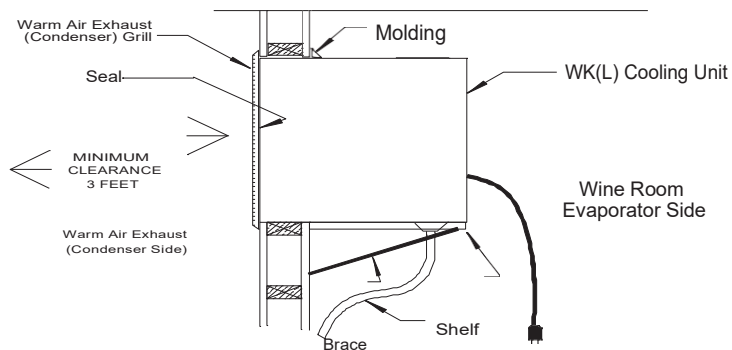
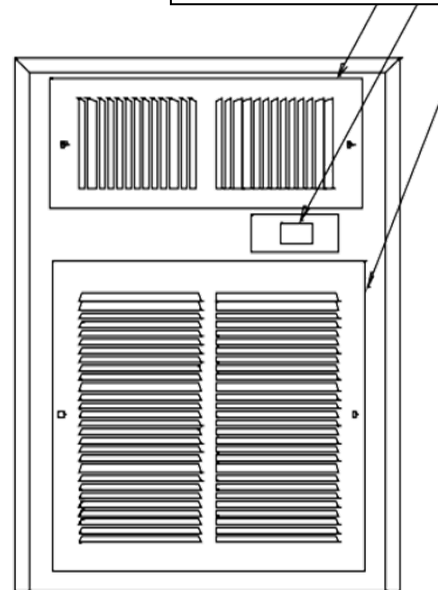

Figure 3
Figure 1
- ☞ This is a mechanical piece of equipment; it will make noise and produce heat on the warm side exterior condenser grille (Fig. 3). Remember, unit installation location is not only important inside the wine cellar, but just as important is where the warm side exhaust air is being rejected.
Before installing the unit, inspect it again for any shipping damage. Test the unit by placing it in a room where the temperature is above 65°F. Position the unit to allow cold air to flow from evaporator outlet. (See Fig. 1) Plug the unit's electrical cord into a properly grounded electrical outlet of adequate capacity (see unit specification for unit electrical requirements).
The Sentry III has no "off" position; therefore, it will begin to run within 5 minutes of being plugged in. Allow it to run for a minimum of 15 minutes. There should be a flow of cool air from the evaporator side upper grille (see Fig. 1) and warm air should be flowing from the upper opening on the warm air exhaust (condenser) grille (see Fig. 3). If there is no airflow or no change in temperature on either side, contact your dealer.
Make sure that the warm air exhaust condenser grille can be properly attached to the unit (see Fig. 3).
If the unit is to be installed above floor level, construct a shelf as shown in Fig. 3. This shelf must be capable of supporting the weight indicated in the specifications. NOTE: Insulation placed between the unit and the shelf will reduce additional noise and help reduce condensate from forming on the underside of the unit.
Place the unit through the opening with the warm air exhaust side, flush to the outside of the wall (see Fig. 3). Attach the warm air exhaust condenser grille to the unit and to the wall with screws supplied with grille. Note: the unit may be installed with the cold side flush to the inside wall, however, two provisions must be made. First, insure the warm air exhaust grille will be installed. Second, insulate and vapor barrier the framed opening to prevent moisture in the wall from condensing on the cold surface of the cooling unit. Please remember that in all cases the warm air exhaust condenser grille must be directly attached to the warm side of the unit. Do not leave an air gap between the unit's surface and the warm air exhaust condenser grille. **The unit will not work properly without this grille.** The exhaust condenser grille has only a white primer coat. If the exhaust condenser grille is installed on an outside wall it should be coated with an appropriate paint.
BREEZAIRE is extremely proud of the quality and reliability of its products. Experience has shown that of the small number of problems encountered, the large majority are due to improper unit selection or enclosure construction. Should the cooling system be suspected of malfunctioning, check the temperature of the air being exhausted from the upper part of the warm air exhaust condenser grille. If it is warm, the unit is working. A further check may be made by comparing the air temperature entering the lower grille on the cold side (Evaporator side) with that leaving the upper cold side grille. (see Fig. 1) If the air leaving the unit is 6°F or more degrees colder than the temperature entering, the unit is working properly. In some cases, improper placement or installation may cause the unit's performance to be compromised. In situations where the ambient relative humidity is very low, the desired enclosure relative humidity may not be achieved without adding moisture. To add moisture to the enclosure only use slow, natural evaporation from a small porous water container. Do not use a humidifier.
Improper placement or installation may cause the unit's performance to be degraded. If the unit is exhausted into a confined area with poor ventilation or duct work, it will not be able to reject the heat and moisture it is removing from the enclosure and a malfunctioning unit will be suspected. If an obstruction to the flow of fresh air into or from the cooling unit (see Fig. 3) is stopped or restricted for any reason the unit could heat rather than cool the enclosure.